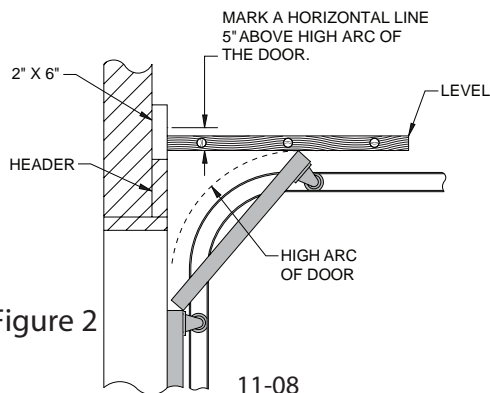

Figure 2
- 5) Use a level, as shown in **Fig. 2** to find the highest point of travel for the door.